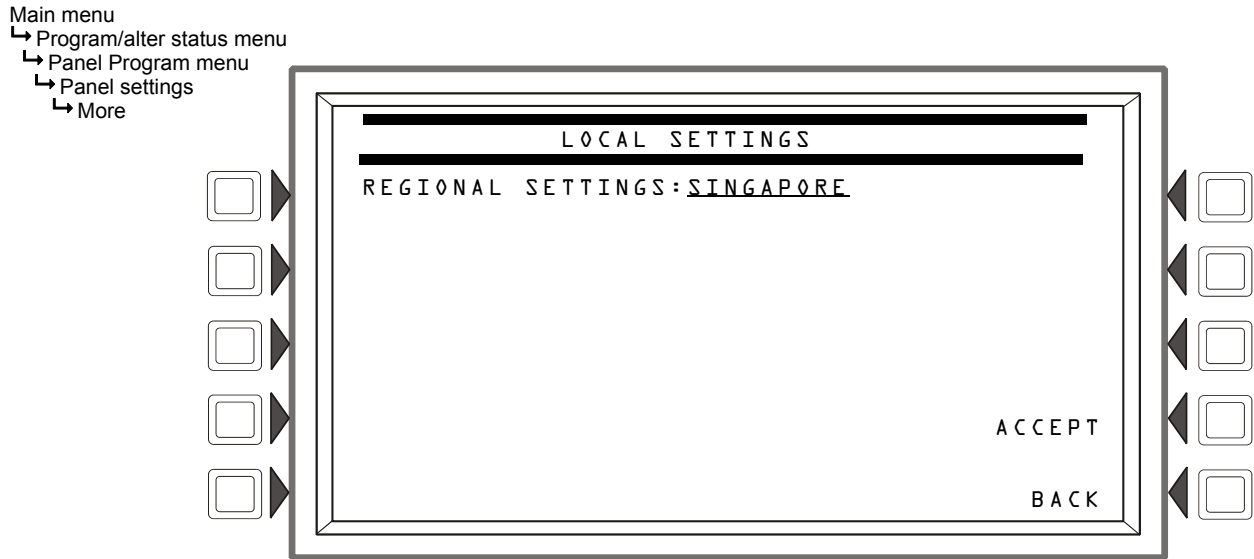

Figure E.1 Regional Settings Screen
The panel programming REGIONAL SETTINGS choices, available through the Panel Settings (2) screen (refer to page 83) are described below. The REGIONAL SETTINGS screen (Refer to Figure E.1) allows scrolling through the available choices by pressing the soft key. Choices are CHICAGO, SINGAPORE, AUSTRALIA, CHINA, CANADA or DEFAULT (no special regional settings).